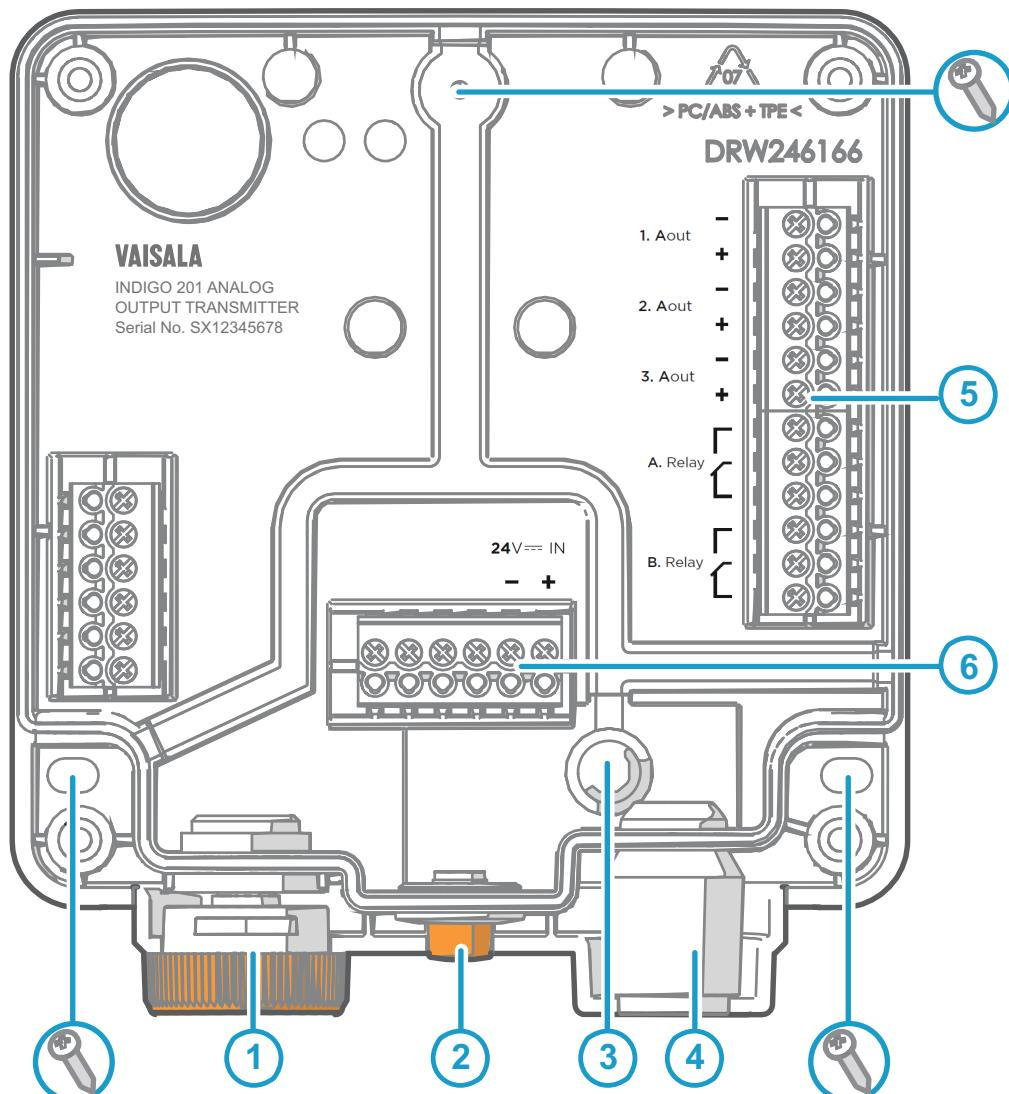

Figure 3 Indigo 201 Transmitter Base Main Parts and Screw Positions
- 4. Place the transmitter base on the installation surface and mount it with 3 screws. See the screw positions in Figure 3 \(page 9\).